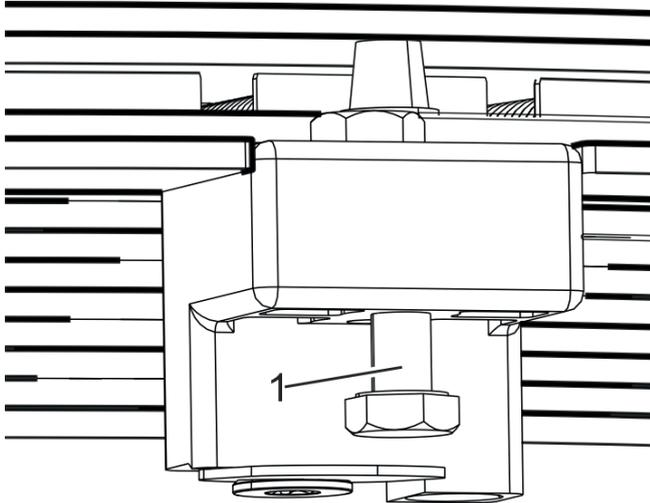

Fig. 145 Removal protection
12. Adjust the removal protection (Fig. 145/1) to the material thickness of the inserted lower ceiling element.